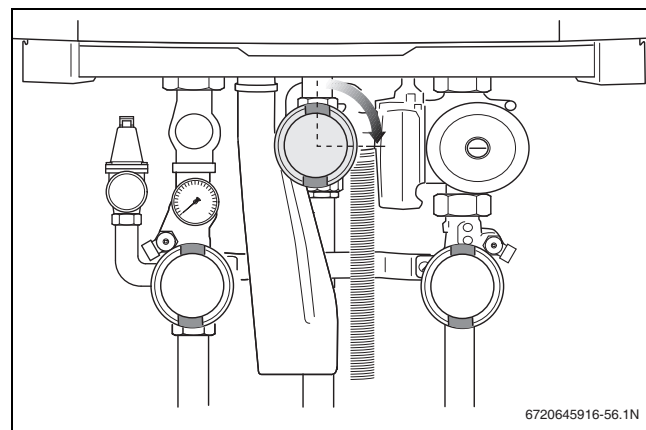

Fig. 60 Closing the gas valve
- Close the gas valve (→ fig. 60).
- ▶ Close the gas shutoff valve when no more air is present (→ fig. 60).